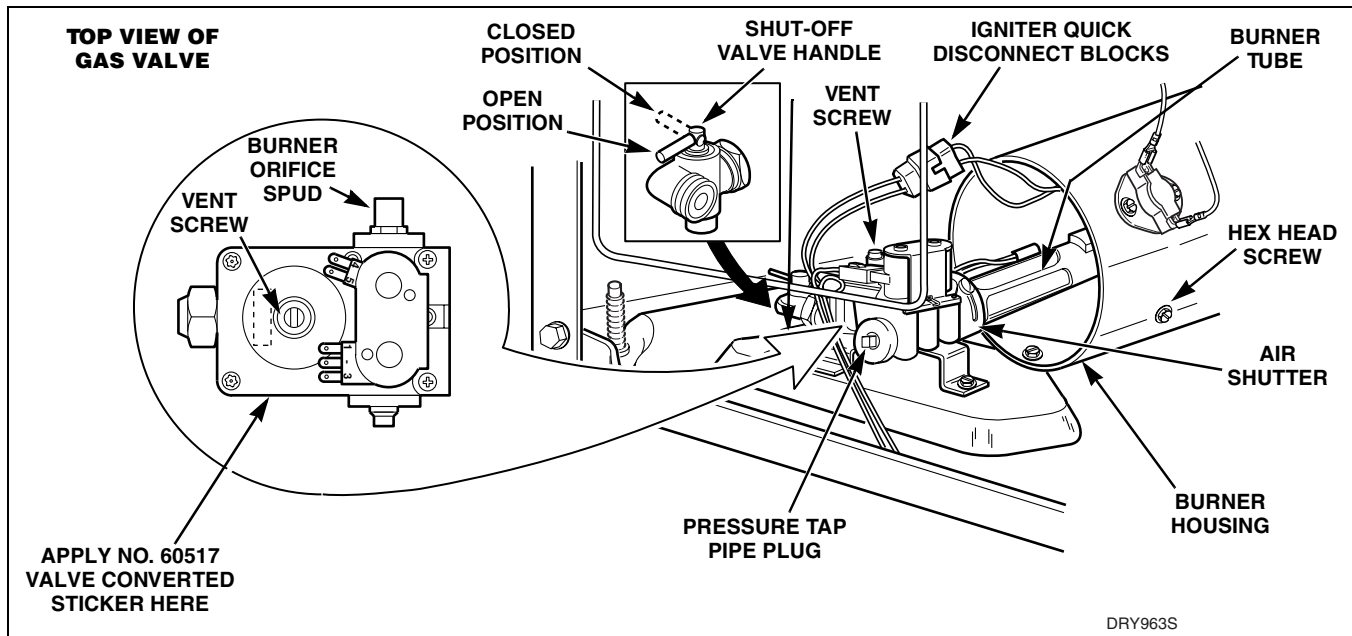

Figure 43
To reduce the risk of fire and explosion, reach in through access door opening and turn the gas line shut-off valve handle to the closed position. *Figure 43*.
- Disconnect igniter wires at quick disconnect blocks. Refer to *Figure 43*.
- Remove hex head screw holding burner tube and igniter in place. Refer to *Figure 43*.
- Remove vent screw and install No. 58754 Block-Open Plug. Refer to *Figure 43*.
- Install No. 60517 "Valve Converted to L.P. Gas" Sticker to top side of gas valve so it covers the gas valve part number. Refer to *Figure 43*.
- Turn the gas line shut-off valve handle to the open position and connect electrical service. Refer to *Figure 43*.
- (4) Stop dryer and remove “U” tube and reinstall the pressure tap pipe plug. Refer to *Figure 43*.
- (1) Remove pressure tap pipe plug. Refer to *Figure 43*.